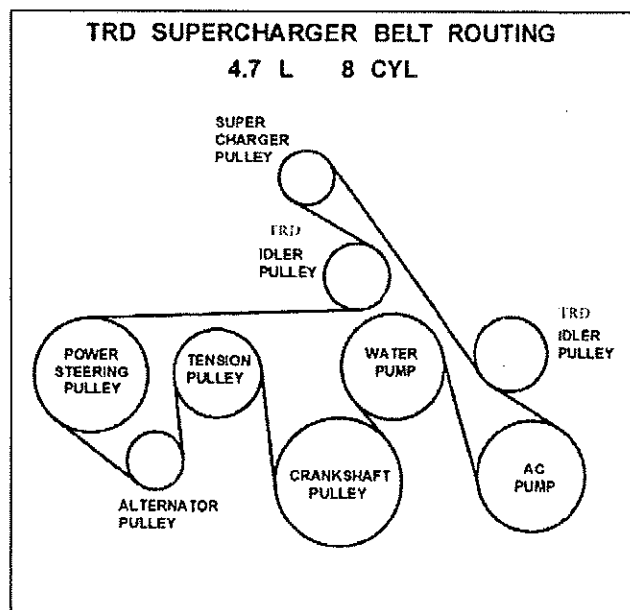

Figure 37
27. Install the TRD drive belt. Use the belt routing shown in Figure 37.